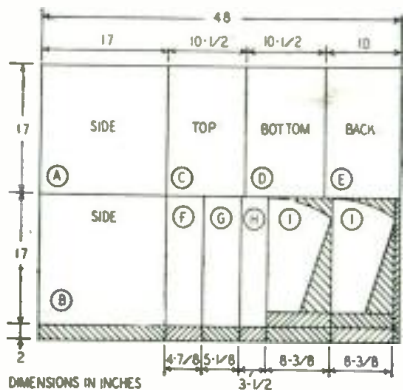
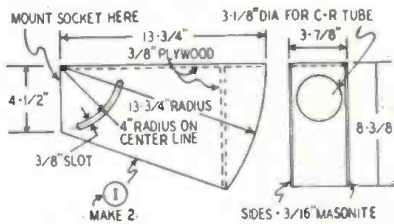

Fig. 1—How to lay out the sheet of plywood.
Fig. 3—Working drawing for C-R-tube holder.
The case was constructed from a sheet of 1/4-inch plywood 48 inches wide and 36 inches long. Fig. 1 shows how the plywood sheet can be laid out to avoid excessive waste. Note that only the shaded areas are wasted. A bench saw is recommended for cutting the sheet. If one is not available, use a saw with fine teeth and support the sheet between two chairs or sawhorses to avoid splintering.
Fig. 1 shows how the sides (I) of the shield are cut from the 1/4-inch plywood sheet while Fig. 3 shows these as being made from 3/16-inch Masonite. We used scraps of Masonite because we wasted some plywood in experimenting with the design of the front panel.